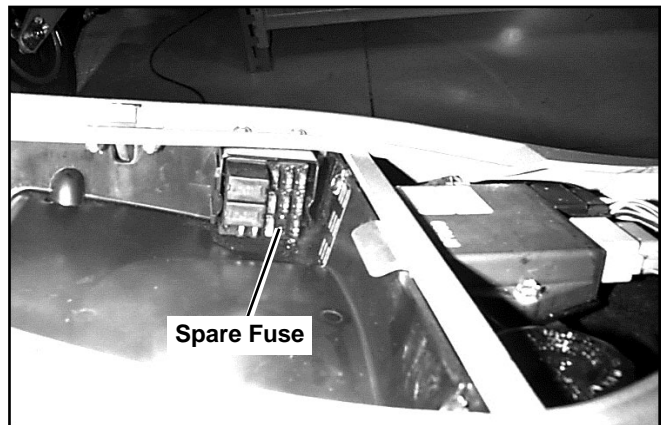

Figure 12. Install Spare Fuse (Motorcycle Trunk)
19. See Figure 12. Install spare 5 amp fuse to empty position in main fuse holder (motorcycle trunk).